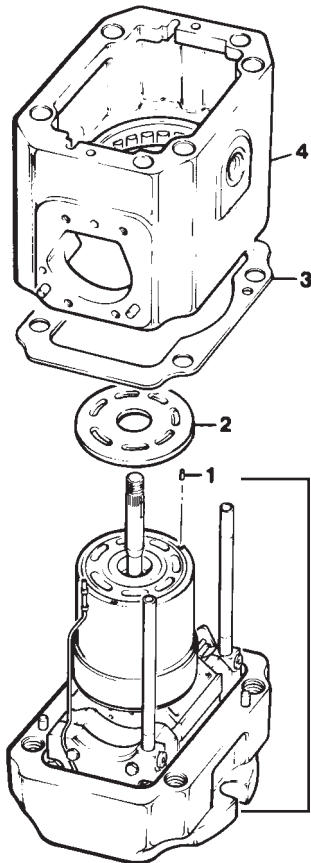

Figure 6
See figure 6. Insert the three face plate pins (1) in the holes provided in the barrel face.
PARTS LIST FOR FIGURE 6